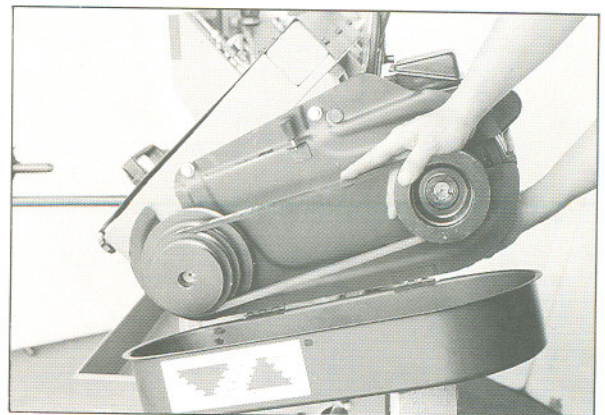

Fig. 4
11. Tension the v-belt by pushing down on the motor and tightening the lock handle on the motor tilt plate. Correct tension is achieved when finger pressure between the two pulleys causes approximately a 1/2" deflection. See Figure 4.